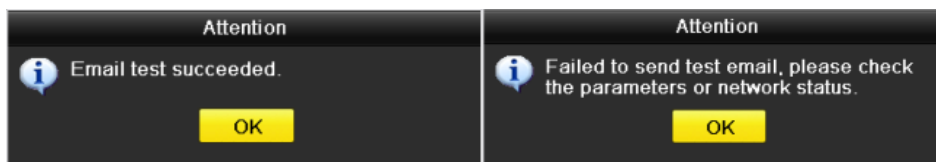

Figure 11. 18 Email Testing Attention
7. You can click **Test** button to test whether your Email settings work. The corresponding Attention message box will pop up. Refer to Figure 11. 18.